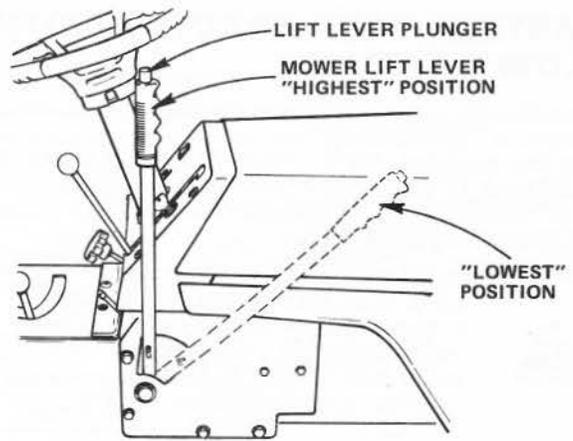

FIGURE 23
1. Depress Lift Lever Plunger at top of Mower Lift Lever and move Lever rearward to its "HIGHEST" position (Fig. 23).